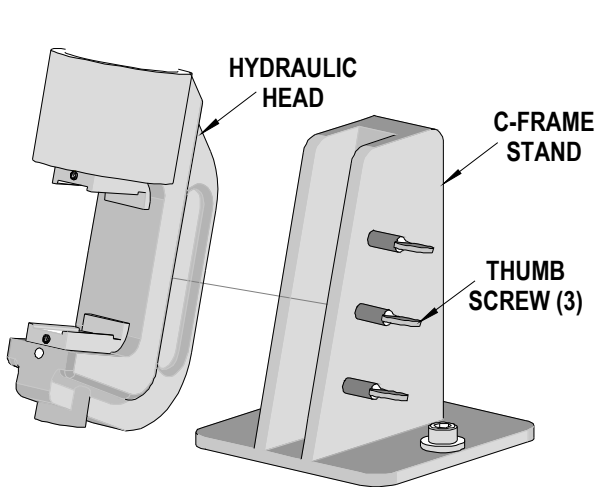

Figure 3-2
4. To mount the hydraulic head assembly to the optional C-Frame stand, loosen the three thumbscrews in the stand and place the hydraulic head in the stand with the cylinder facing up. Tighten the thumbscrews; making sure the hydraulic head is securely positioned. See Figure 3-2.